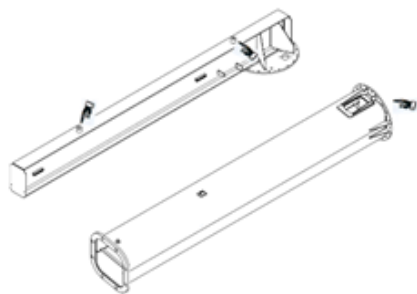

fig. 13
- The metalwork parts of the jib crane (column and arm) are generally supplied with packaging, hooking points are present on the columns to make it easier to move them during installation operations (fig. 13).